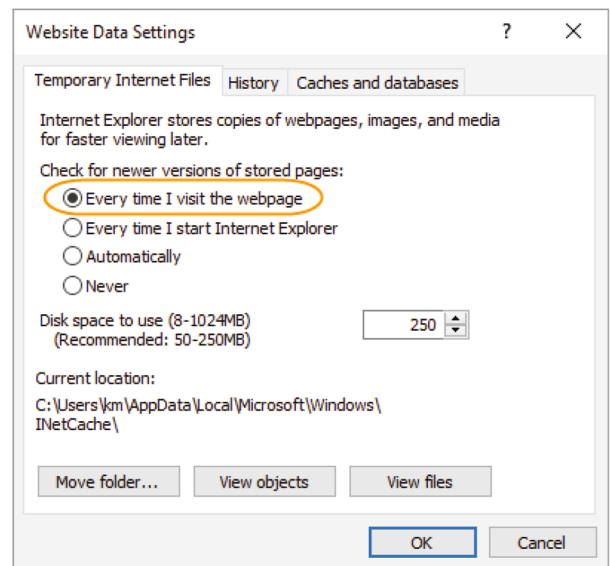

Fig. 27. Temporary settings menu
4. In the tab 'TemporaryInternetFiles', Fig. 27, confirm the option shown in the image.